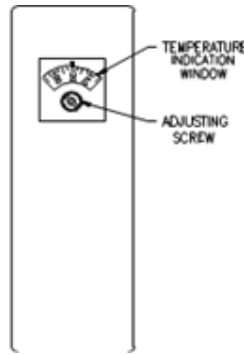

Fig. 7
2. For the most energy efficient operation, adjust the aquastat for the minimum water temperature necessary to meet domestic hot water needs (refer to Figure 7). Use a small flat screwdriver to rotate the temperature dial through the hole directly below the temperature indication window. The temperature setting is aligned with the notch in this window.